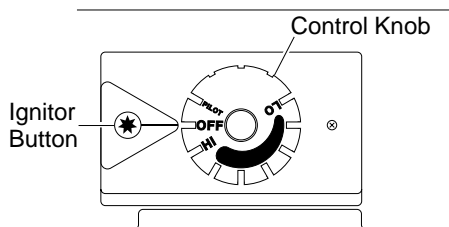

Figure 22 - Control Knob In The OFF Position
- Wait five (5) minutes to clear out any gas. Then smell for gas, including near the floor. If you smell gas, **STOP!** Follow "B" in the safety information at the top of column 1. If you don't smell gas, go to the next step.
- Turn control knob counterclockwise to the PILOT position. Press in control knob for five (5) seconds (see Figure 22).